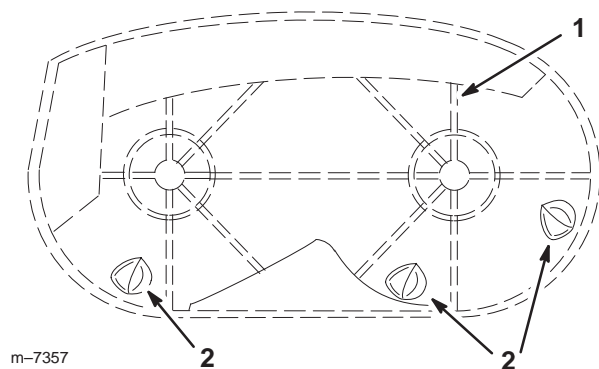

Figure 9
1. Orientate the three kicker plates with holes toward the top of the deck (Fig. 9). The long slope of the kickers must be face inward as the kickers placed in clockwise fashion.
2. Secure the plates to the deck using six phillips head screws (#8 x 5/8 inch). The screws come from the top, down through the deck, and into the plate (Fig. 9).